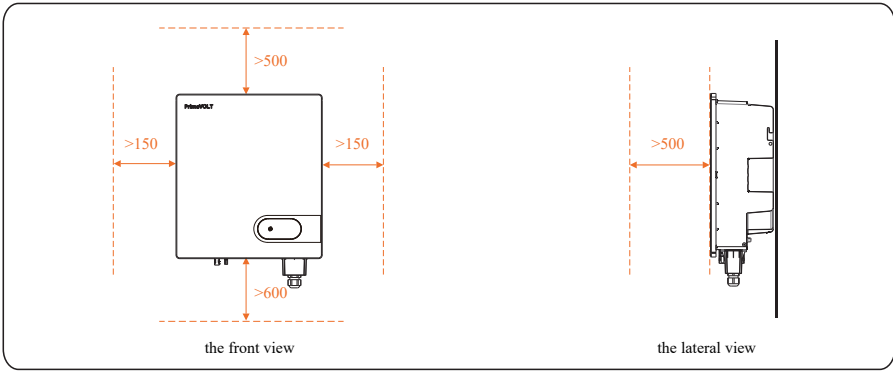

Figure4.4 Installation Space Requirements (unit: mm)
- b. Reserve enough clearance around the inverter to ensure sufficient space for installation and heat dissipation, as shown in Figure 4.4.